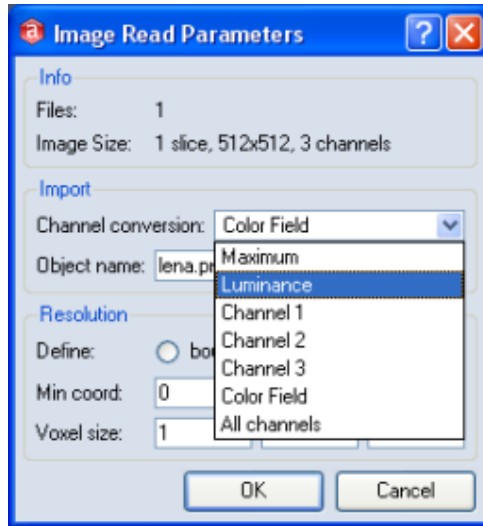

Figure 2.30: Loading the image
- Choose *Luminance* in the *Channel Conversion* field as shown in Figure 2.30.